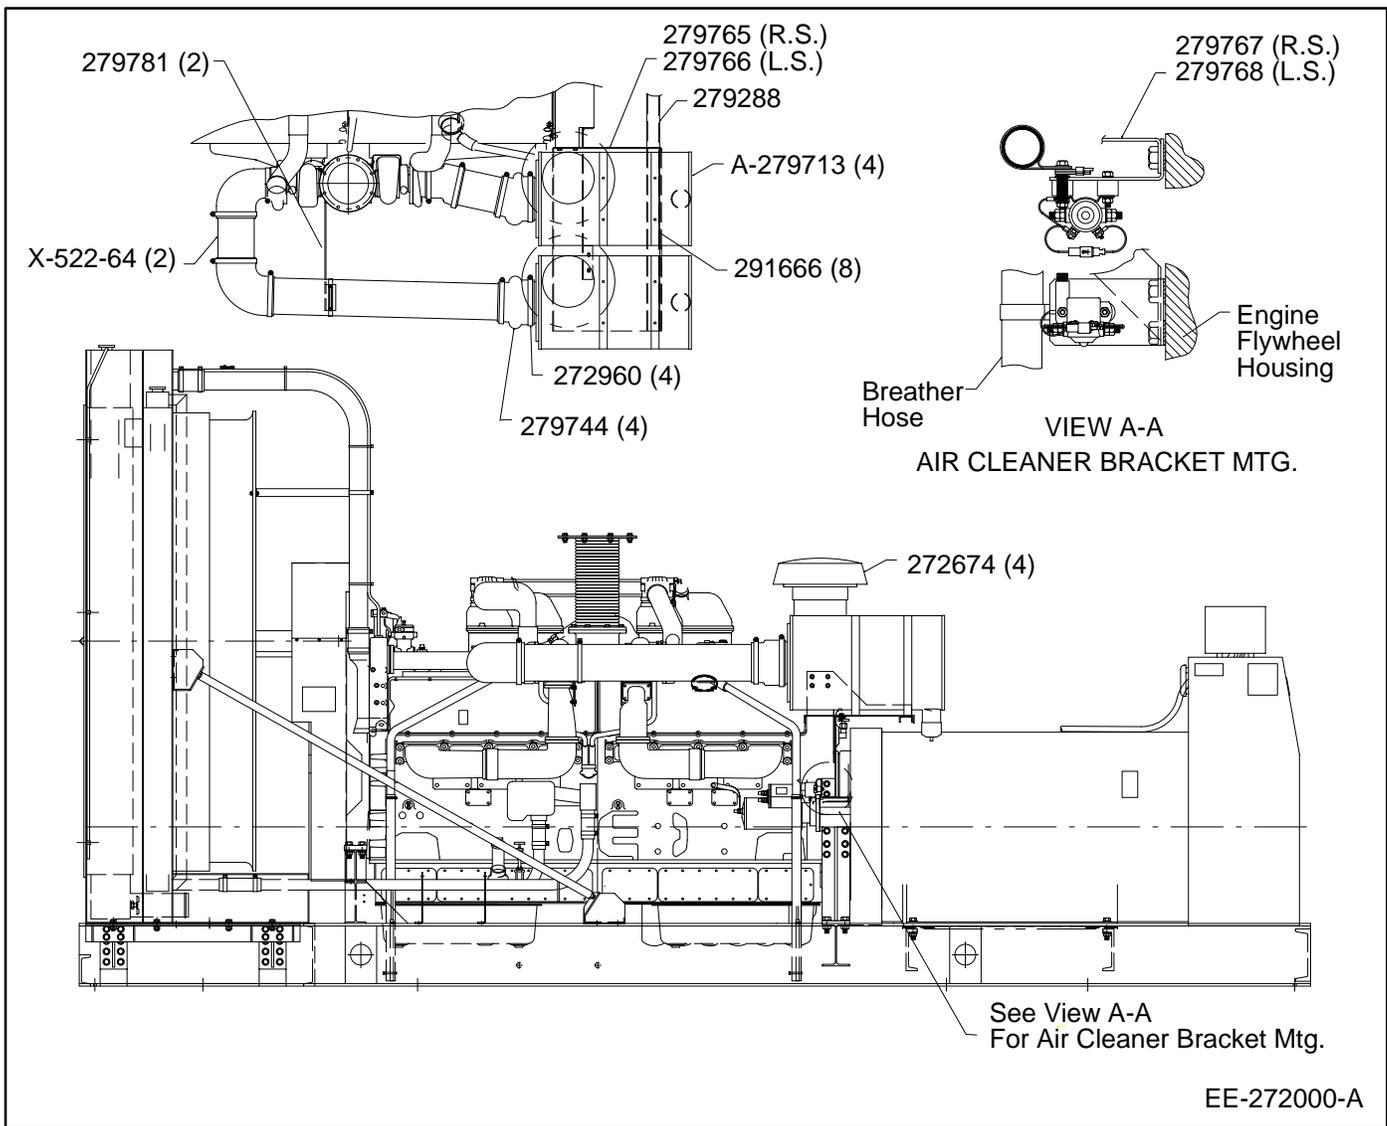

Figure 1. Heavy-Duty Air Cleaner Kit Installation.
3. Install mounting brackets (279765 and 279766) and support brackets (279767 and 279768) from kit on sides of engine indicated in Figure 1. Use engine flywheel housing attaching bolts as noted on View A-A in Figure 1.
Assemble two steel tubes (X-522-64), four hump hoses (279744) and four hose clamps (272960) to engine. Use existing hardware and piping as shown in Figure 1. Do not tighten hose clamps at this time.